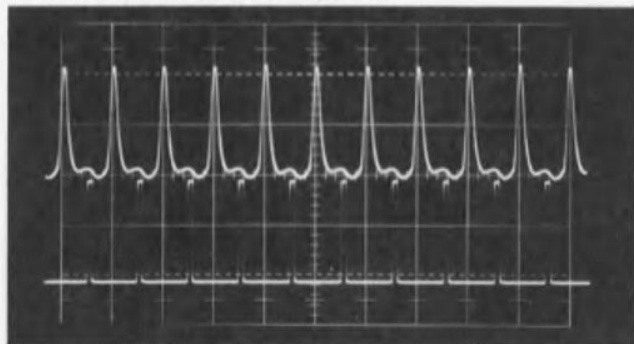

Fig. 4-9. Crt display showing correct adjustment of fast period capacitor C115F.
b. Set the Type 547 TIME/CM (B) switch to 1 μ SEC. Push in the PULL TO INVERT switch on Channel 2 of the Type 1A1.
d. Using the Type 1A1 POSITION controls, put the peak of the first pulse from the Type 114 to some reference point on the first pulse from the Type 180A (see Fig. 4-9).
e. Adjust capacitor C115F (see Fig. 4-10) so that the peaks of the pulses from the Type 114 occur at the same point on each succeeding pulse from the Type 180A as shown in Fig. 4-9. Allowable error is 3%, but it is possible to adjust much closer than this.